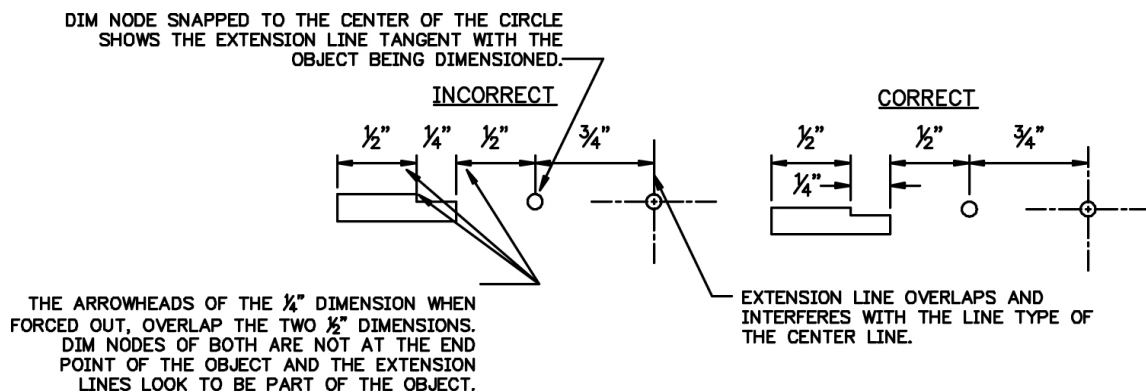

Figure 4—Overlapping in Linear Dimensioning
3. Linear dimensions should be offset when arrows are forced out, to keep arrowheads from overlapping (see Figure 4).